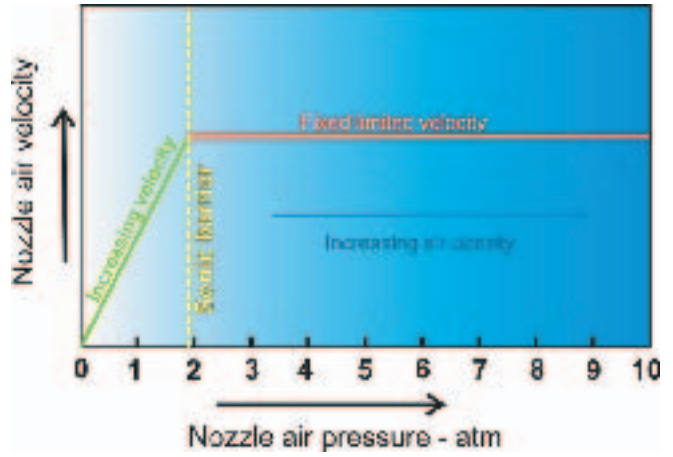

Fig. 4 Schematic representation of velocity variation with air pressure.
Equation (1) only applies up to a limiting value of  $v_2$ . That is because practical nozzle air pressures are always high enough to produce what is termed “choked flow”. Fig.4 is a simplified schematic representation of how the nozzle air velocity changes with increase of nozzle air pressure (assuming that the nozzle vents to 1 atm pressure in a peening unit). A “sonic barrier” exists at the narrowest part of the nozzle, caused by the difference in pressure in the nozzle as compared with that in the peening unit. This barrier occurs when the air pressure difference is about 1.9 atm. Because all practical peening involves a pressure difference of more than 2 atm (29.4 psi) we have a fixed limited air velocity in the nozzle - regardless of nozzle pressure and nozzle diameter. The only proviso is that an adequate supply of compressed air is maintained.